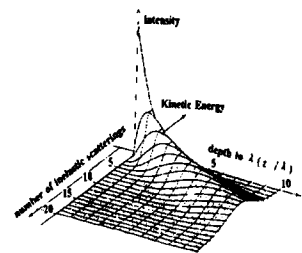

Fig. 2 Peak background model
3. Simplified Interpretation and conclusion Peak backgrounds are generated when photoelectrons or Auger electrons are passing through the materials over the electron emitted point. If the number of inelastic scattering are increased, generated background should be larger. Also, the intensity of no-loss electrons is exponentially decreased. A relation between the number of inelastic scattering, emitted depth and signal intensity can be simplified and modeled like Fig. 2, as a Poisson's distribution.